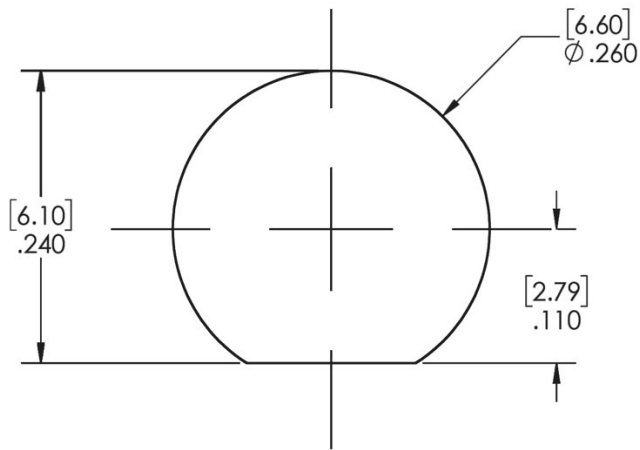

Figure 2 – Recommended mounting hole for 1/4-36UNS-2A threaded antenna
4. Determine the best location for external antenna position and create an opening to mount the antenna and bulkhead (See Figure 2 for measurements).